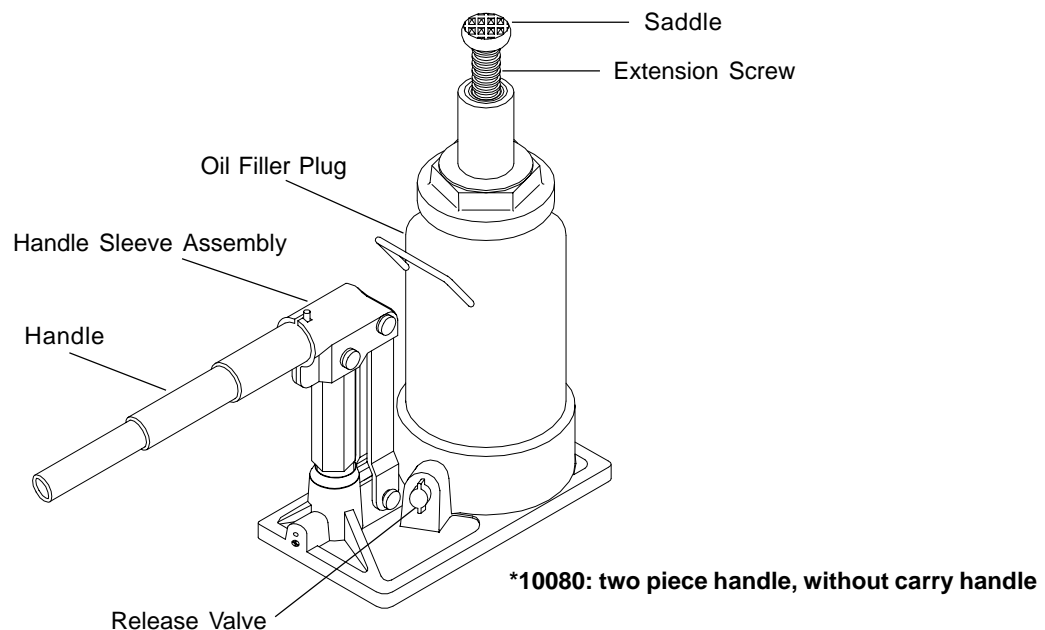

Figure 1 - Model 10080\*, 10120, 10128, 10200 & 10208 Nomenclature
1. Verify that the product and the application are compatible, if in doubt call Omega Technical Service (888)332-6419.
4. Use the notched end of the provided handle to engage and open the release valve counterclockwise no more than 1/2 full turn. (see Fig. 1)